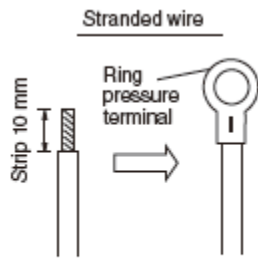
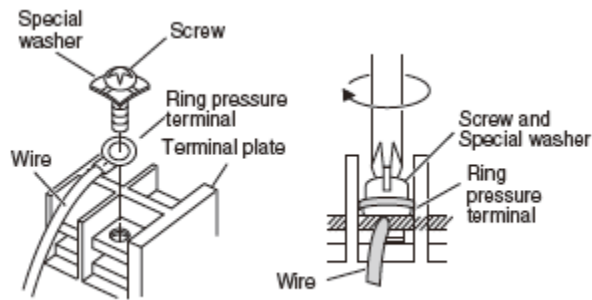

Fig.9-7
Fig.9-8
- (1) Cut the wire end with cutting pliers, then strip the insulation to expose the stranded wiring by about 10mm and tightly twist the wire ends. (Fig.9-7)
- (2) Using a Phillips head screwdriver, remove the terminal screw(s) on the terminal plate.
- (3) Using a ring connector fastener or pliers, securely clamp each stripped wire end with a ring pressure terminal.
- (4) Place the ring pressure terminal, and replace and tighten the removed terminal screw using a screwdriver.(Fig.9-8)